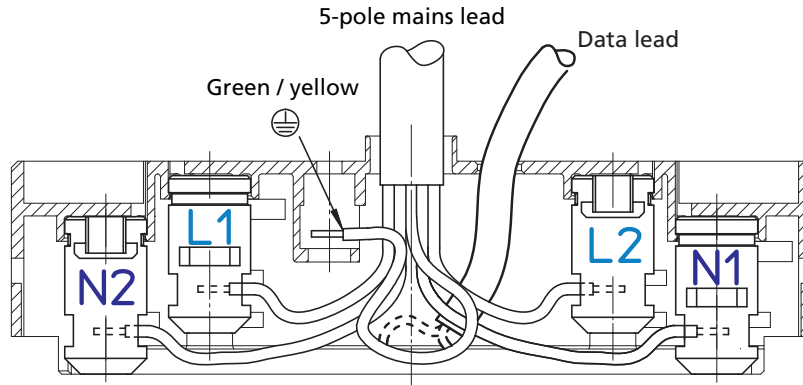
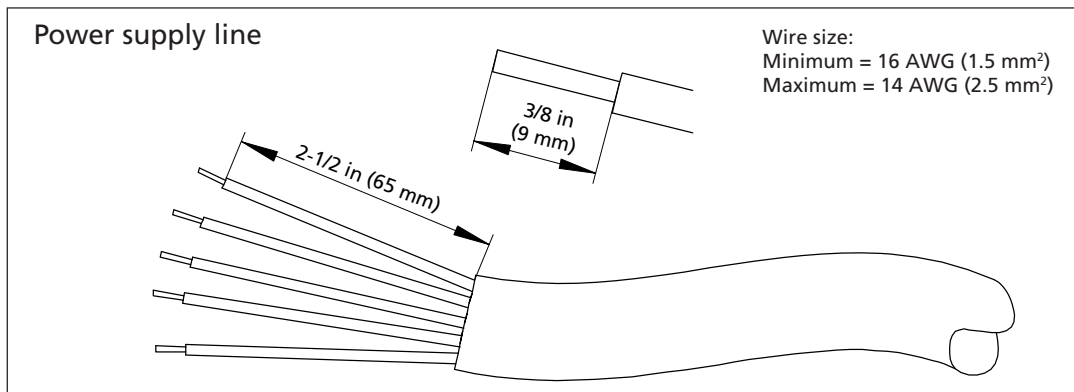

Figure 13: Wiring
Figure 14: Dismantling and insulation strip lengths
- 7: After the mid feed has been fixed securely into place, wire the individual circuits and the earth conductor as shown. When wiring the track, check that the earth conductor (green/yellow) and the neutral conductors (white) are connected as indicated in Figure 13 and Figure 14. Circuits 1 and 2 can be wired as required.